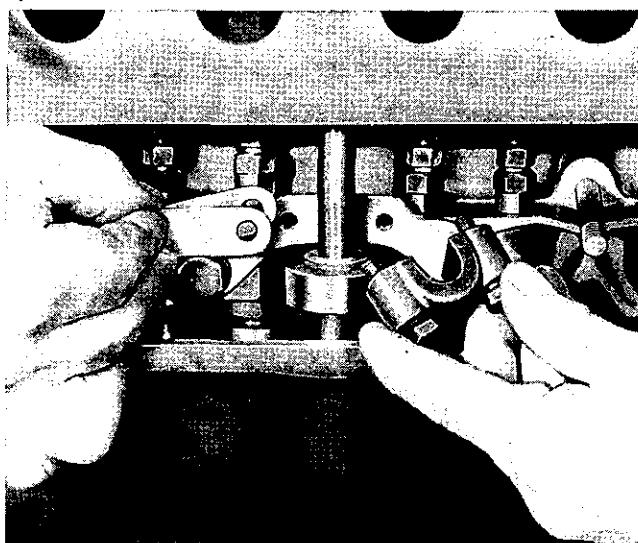

Fig. 27. Showing the fitting of inter abutment bracket and shims to distributor and oil pump drive.
3. Withdraw the two setscrews, which secure the outer abutment bracket to the inner one and remove the latter bracket, taking care not to drop the packing shims, shown in Fig. 27, into the sump ($\frac{7}{16}$ " A/F Spanner).
26. Remove Distributor Shaft abutment outer bracket with packing shims, after withdrawal of two securing bolts. Note packing shims for reassembly and position of machined portion of bracket towards skew gear with .003 gap. *Shims should be just sufficient to provide a clearance between shaft and bracket.* ($\frac{7}{16}$ " A/F Spanner). (See Fig. 27.)